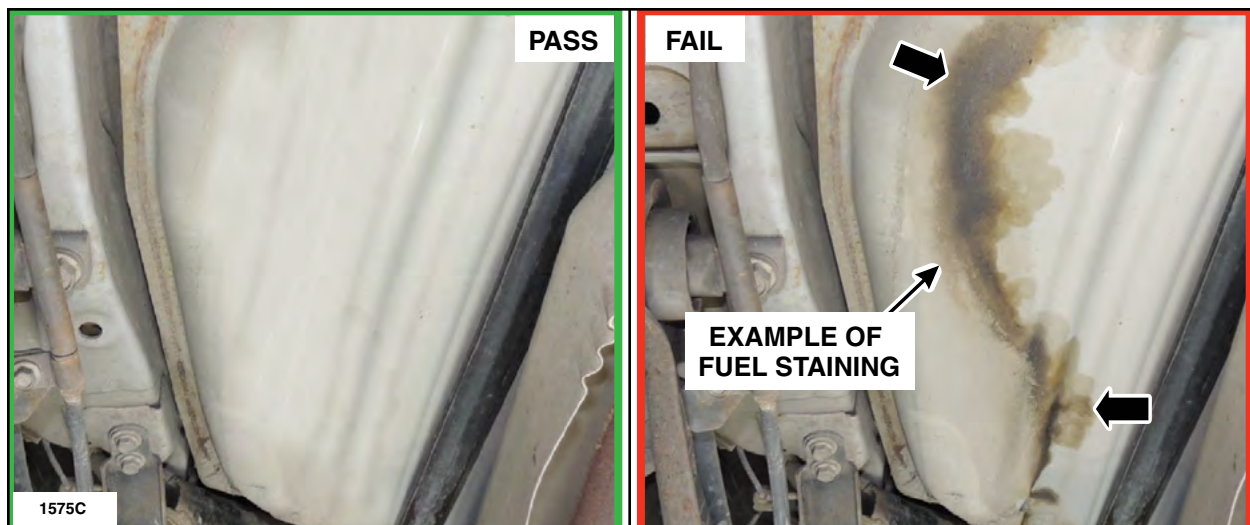

FIGURE 2
1. Inspect the fuel tank for any signs of fuel staining on the bottom of the fuel tank. See Figure 2.